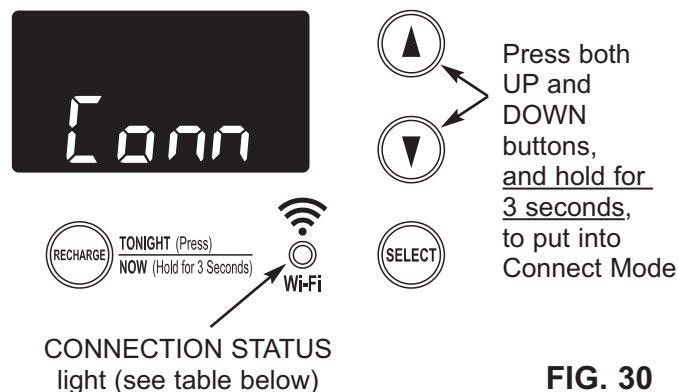

FIG. 30
3. On the water softener's front panel (see Fig. 30), press both the ▲ UP and ▼ DOWN buttons, and hold them for 3 seconds.
4. Release the buttons when “Conn” appears in the display (See Fig. 30) and the connection status light begins flashing amber.